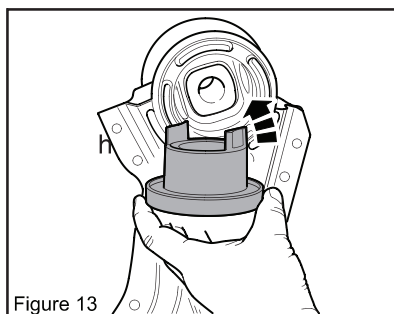
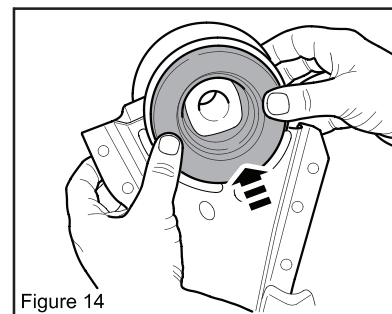

Figure 13
Figure 14
13. Install the 67480 bush into the bottom of the rear lower cradle mount OE bush using a small amount of grease supplied. (Figure 13 & Figure 14).